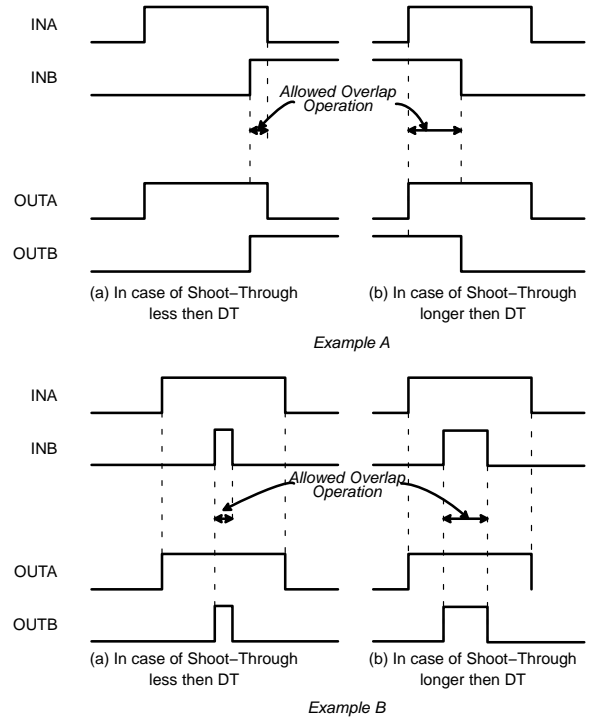

**Figure 52. Concept of Shoot-Through Prevention**
The cross conduction prevents both high- and low-side switches from conducting at the same time when the dead time (DT) control mode is in half-bridge type, as shown in Figure 52.